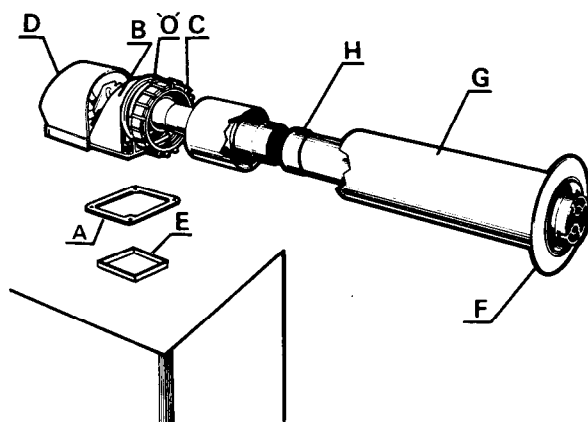
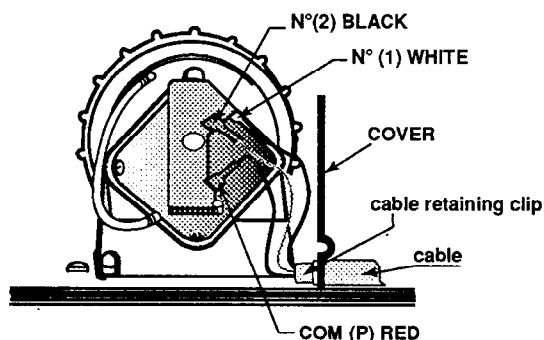

Fig. 25
Fig. 26
- Peel off protective paper from adhesive side of cork gasket (A) place on mating side of flue turret (B) lining up with four clearance holes, press together.
- Assemble second part of flue duct (H), push fit.
- Slide locking ring (C) and 'O' ring over plastic air duct.
- Slide air duct over flue duct, engage end of flue duct into terminal and locate air duct into turret (B).
- Slide 'O' ring along air duct (C), to contact with the face of the turret (B). Locate lugs on locking ring (C) between lugs on flue turret (B). Push together and turn to lock.
- Position square channelled rubber gasket (E) on the flue hood outlet of the boiler, channel facing downwards.
- Pass the flue assembly through the wall and seat turret (B), onto the flue outlet, secure with 4 screws provided.
- Fit wall plate (F) provided with mastic sealing ring over air duct to structure.
- Do not fit plastic turret cover 'D' until electrical connections to the pressure switch have been made (see fig. 26).
- Push spade terminals onto tags COM (P) No (1) and No (2)
- Fit turret cover (D) (fig.25) ensuring that both the air tube and cables are not trapped. Ensure that the cable retaining clip is positioned inside of the cover as shown. (see fig. 26).